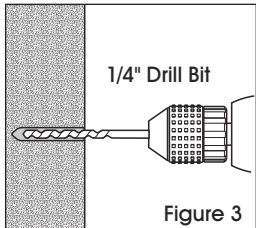

Figure 3
3. Drill holes for each hanger in marked locations using a 1/4" drill bit. (See Figure 3)